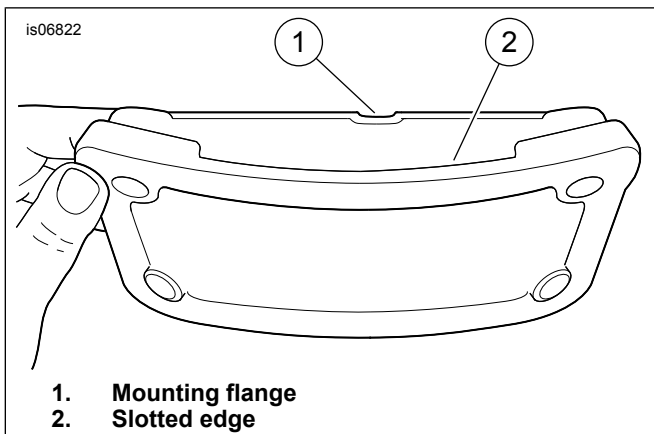

Figure 3. License Plate Frame
See Figure 3. The slotted edge (2) of the license plate frame must face upward to fit around the mounting flange (1) of the backplate.